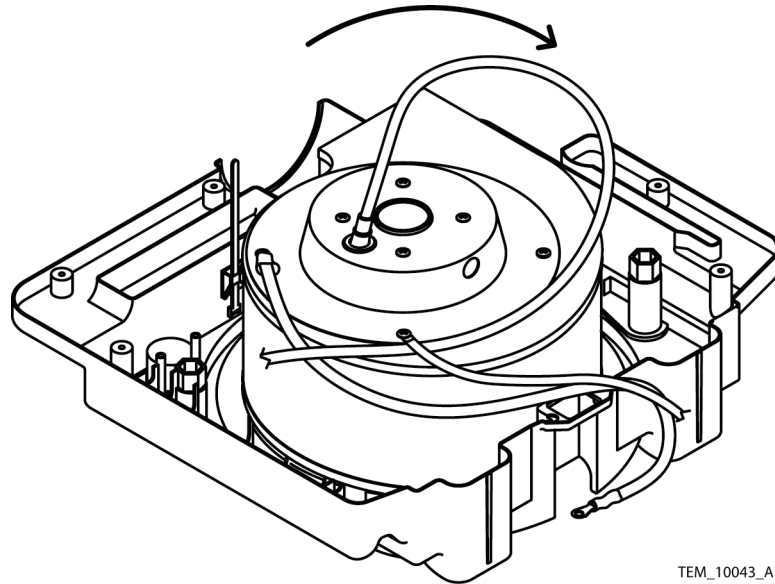

Figure 43. Blower Motor Removal
8. Rotate the blower motor assembly clockwise to disengage two of the four clips. See Figure 43 and Figure 44.